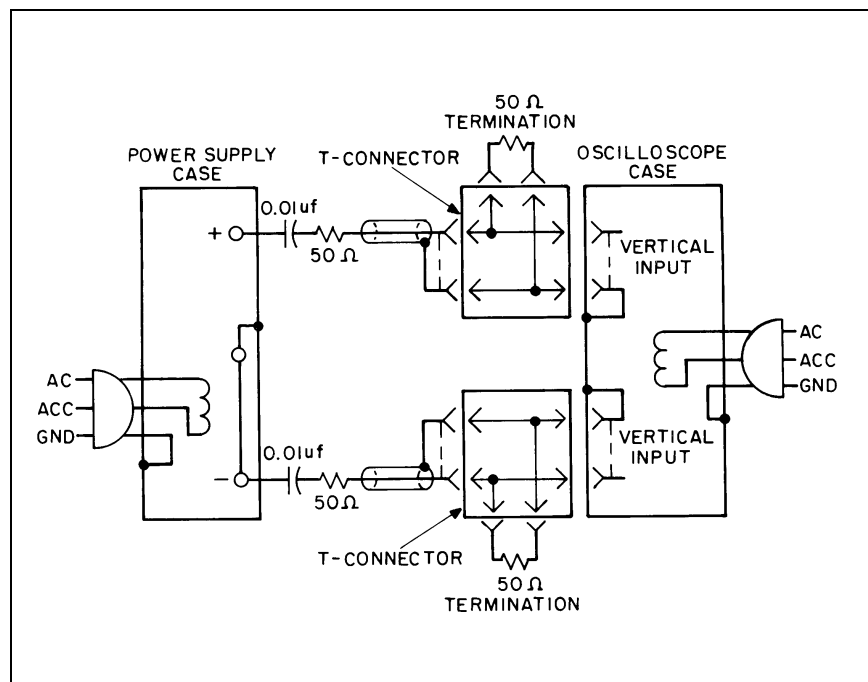

Figure 74. Measurement of Noise Spikes
1. As shown in Figure 74, two coax cables must be substituted for the shielded two-wire cable.
5. Using the setup in Figure 74, the measured noise spike values must be doubled, because the impedance matching resistors constitute a 2-to-1 attenuator.
The circuit of Figure 74 can also be used for the normal measurement of low frequency ripple and noise, by simply removing the four terminating resistors and the blocking capacitors and substituting a higher gain vertical plug-in in place of the wide-band plug-in required for spike measurements. Notice that with these changes, Figure 74 becomes a two-cable version of Figure 72C.